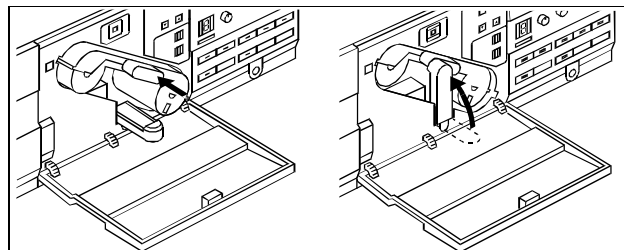

Figure 6-34. Inserting the Ink Cartridge
4. Grasp the knob on the front of the cartridge, then slide the cartridge all the way into the compartment and raise the ink lever (Figure 6-34).